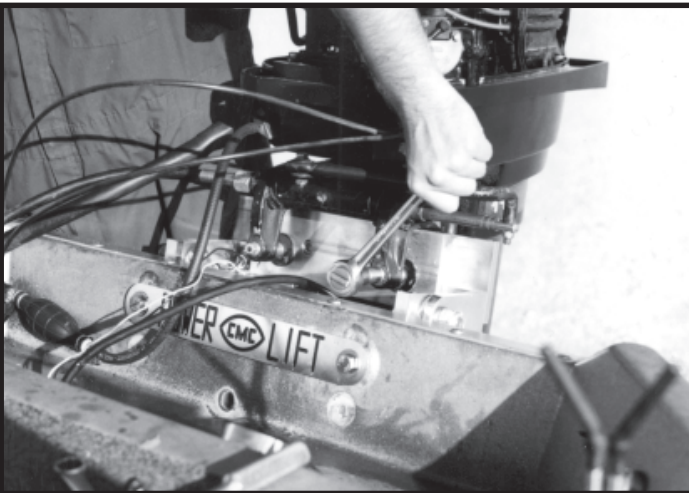

FIG. 15
Step 8: Center motor on the PT-130 and tighten clamp bolts to adapter plate (FIG. 15)